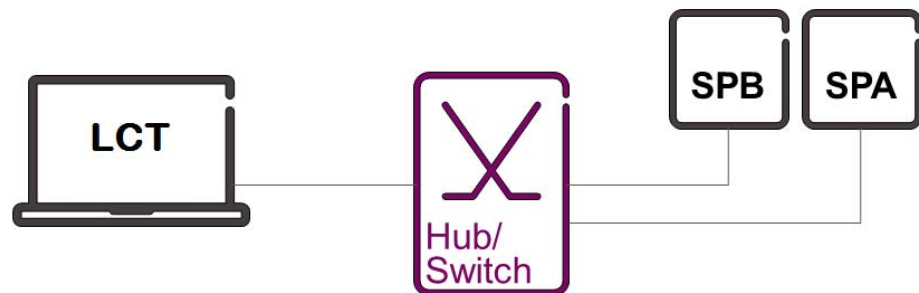

Figure 2 Installation Setup
4. Connect the LCT to the switch with the third cable from your toolbox. Figure 2 depicts the recommended setup for connecting the LCT to the VNX.